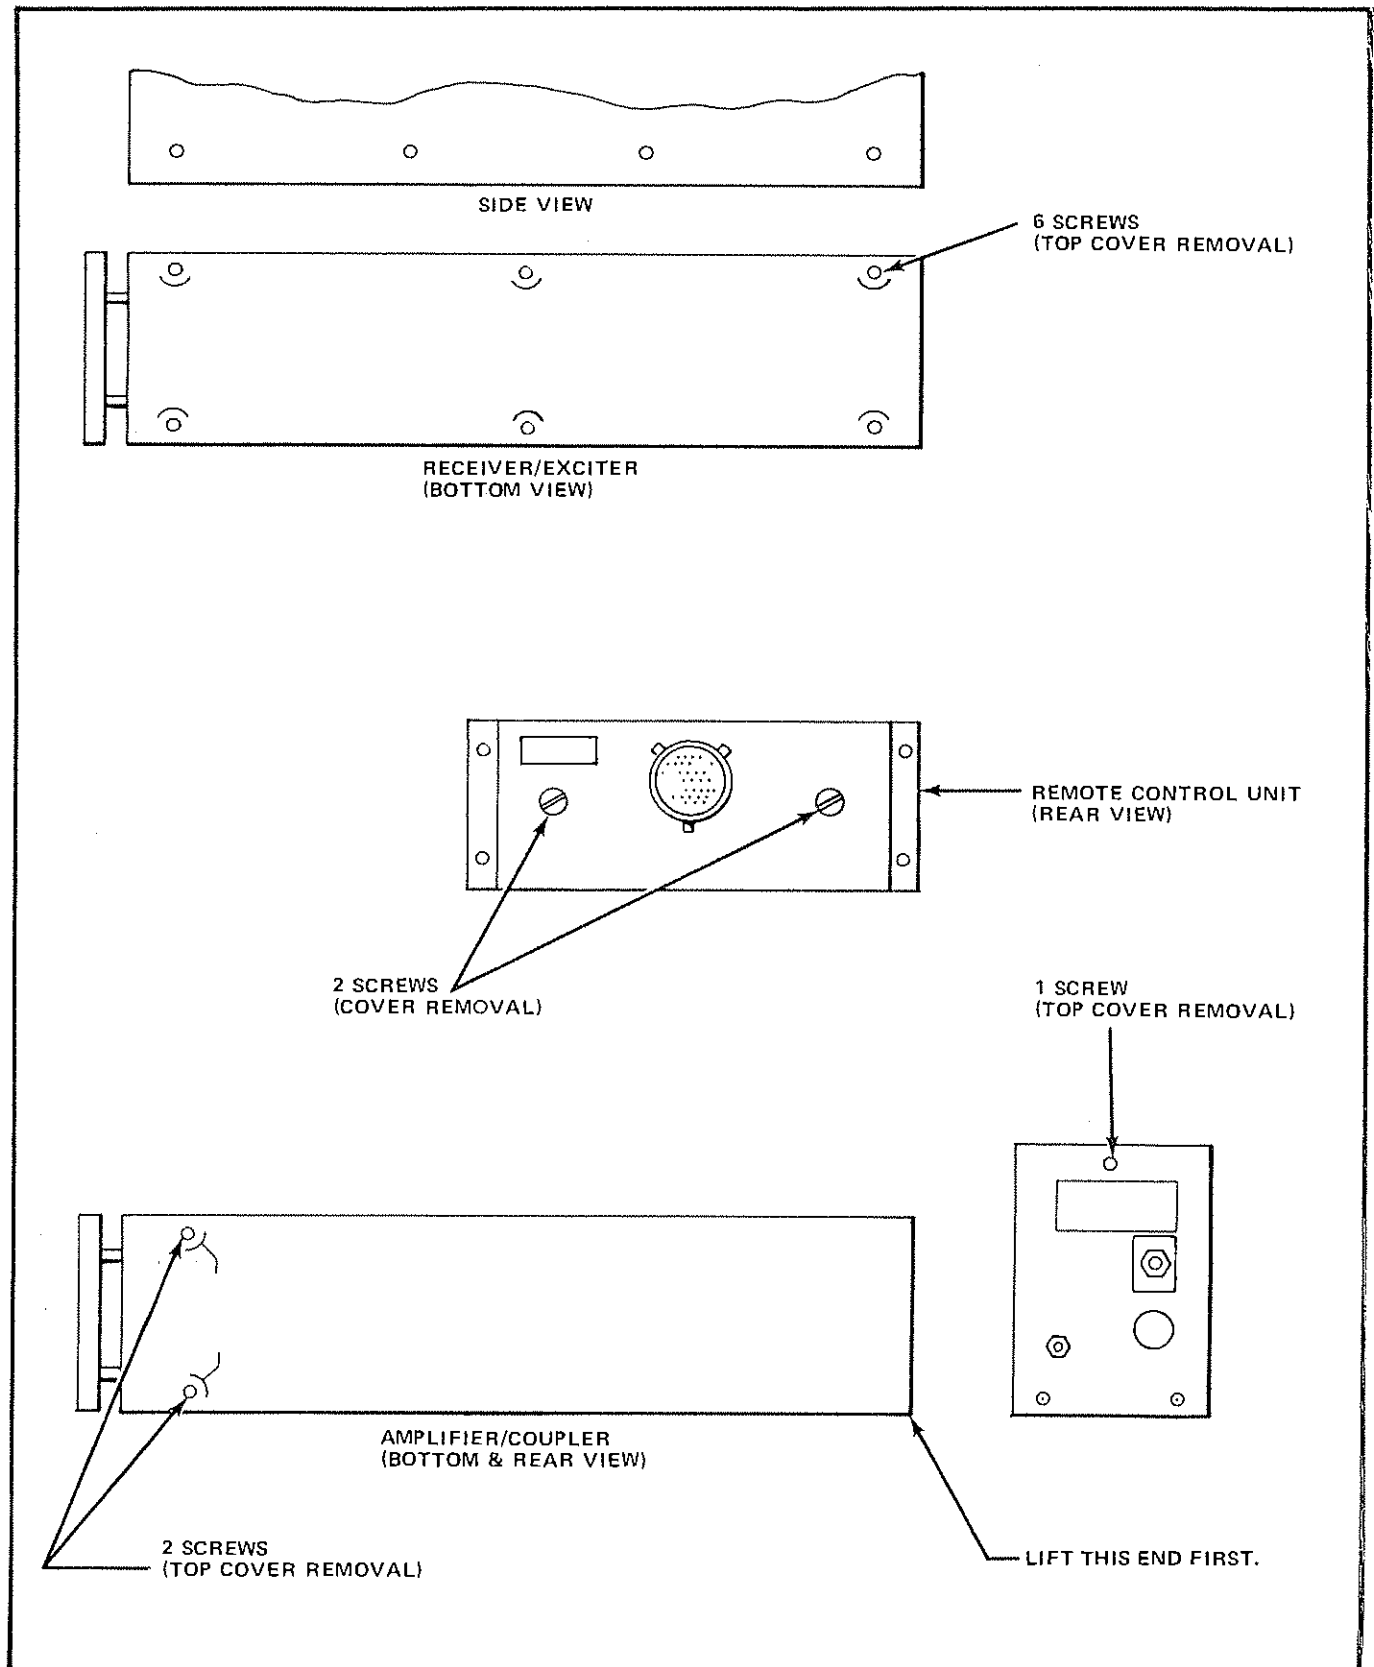

Figure 5.1 Cover Removal for ASB-850 Units
- b. To remove the bottom cover, note the four screws in line along the side of the chassis on each side (see figure 5.1). Remove these eight screws and carefully pull the cover from the unit.